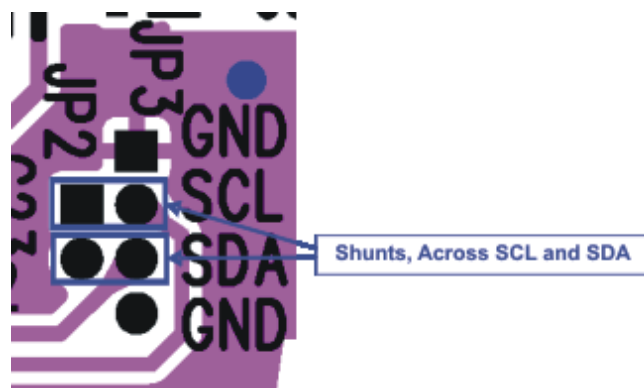

Figure 1. Place Shunts Horizontally Across SCL and SDA
4. Install shunts in JP2 and JP3 as shown in Figure 1. This sets the TPA2016D2 to accept I²C inputs from the EVM itself.